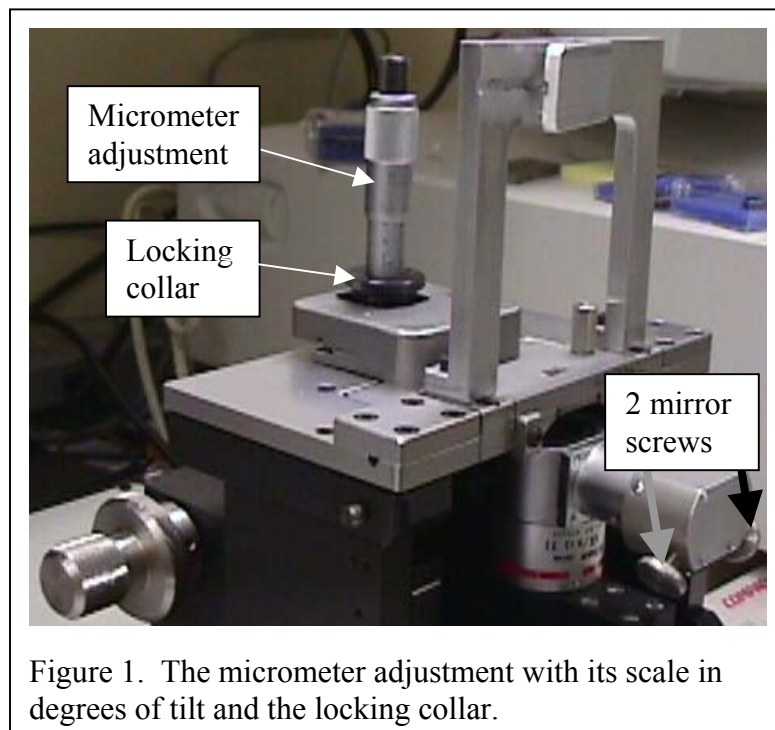

Figure 1. The micrometer adjustment with its scale in degrees of tilt and the locking collar.
Loosen the locking collar. Adjust the Variable Tilt Stage to  $0.00^{\circ}$  with the micrometer adjustment, which displays units in degrees of tilt. Turn the micrometer adjustment in a clockwise direction (when viewed from above). If you approach  $0.00^{\circ}$  from a counterclockwise direction, go past it and return to it from the clockwise direction. Use the locking collar at the bottom of the micrometer to lock the micrometer in position. See Figure 1.
9. Adjusting the mirror screws. With a delicate touch and a very fine motion, adjust the 2 mirror screws. See Figure 1. Use one screw at a time. The fringe patterns should cover between 30 and 50% of the Live Image window. Carefully remove the standard ferrule, rotate it 180° so that the epoxy window faces the rear of the interferometer, and re-insert the standard ferrule using Step 4 above. Adjust the Focus Knob so that the fringes are in the center of the Live Image window.